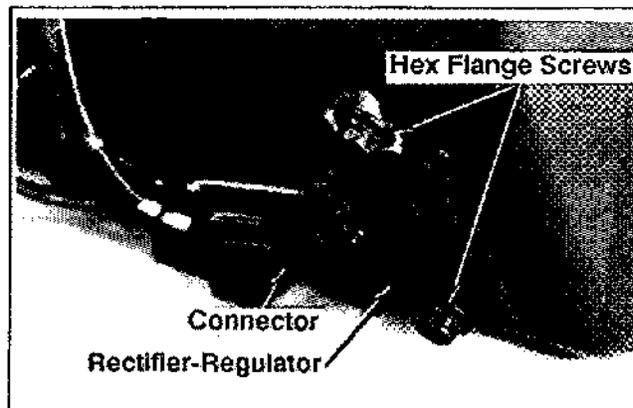

Figure 11-41. Installing Rectifier-Regulator.
1. Install the rectifier-regulator and hex flange screws. See Figure 11-41.